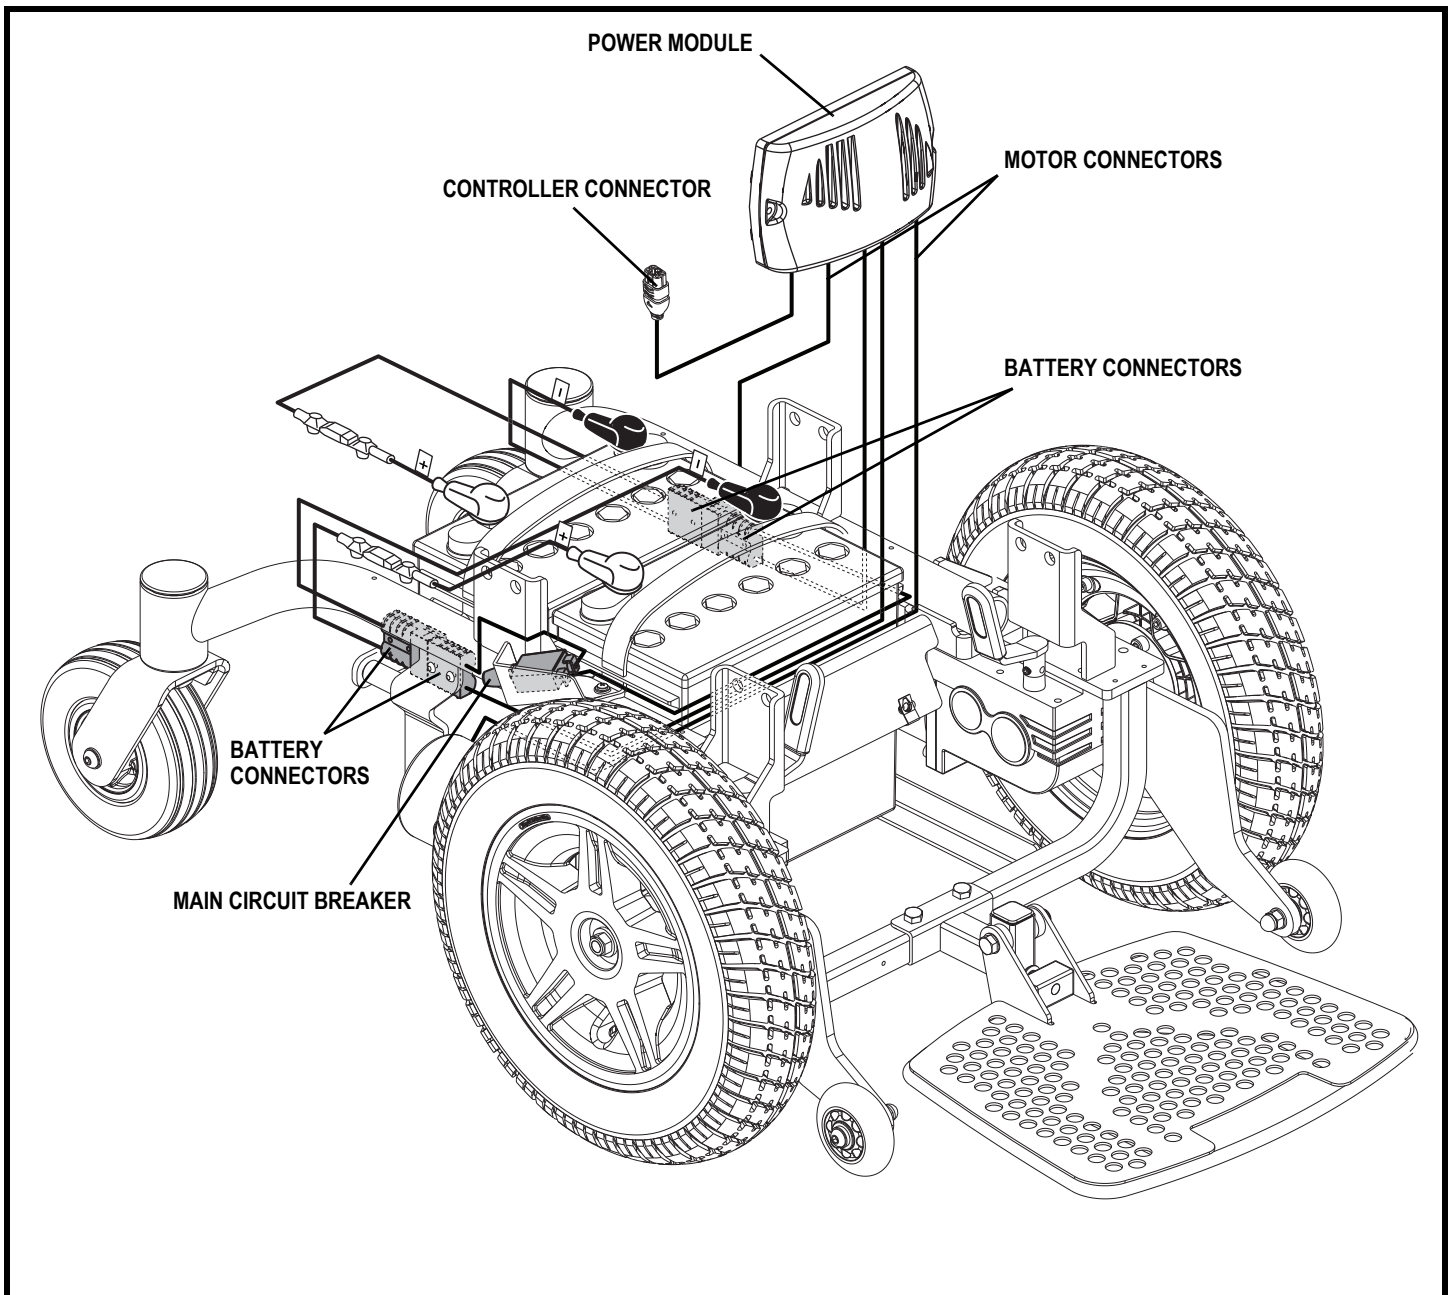

Figure 3. Jazzy Elite Series Electrical Components
The electrical components are located either on or inside the power base. The main circuit breaker is located on the right side of the power base. The power module is located under the front cover. See **figure 3**.
Main Circuit Breaker: The main circuit breaker is a safety feature built into your power chair. When the batteries and the motors are heavily strained (e.g., from excessive loads), the main circuit breaker trips to prevent damage to the motors and the electronics. If the circuit trips, allow your power chair to “rest” for approximately one minute. Next, push in the circuit breaker button, turn on the controller, and continue normal operation. If the main circuit breaker continues to trip repeatedly, contact your authorized Pride Provider. See **figure 3**.
5. Plug the controller connector into the front of the power base. See figure 3.
3. Unplug the controller connector(s) from the power base. **See figure 3.**